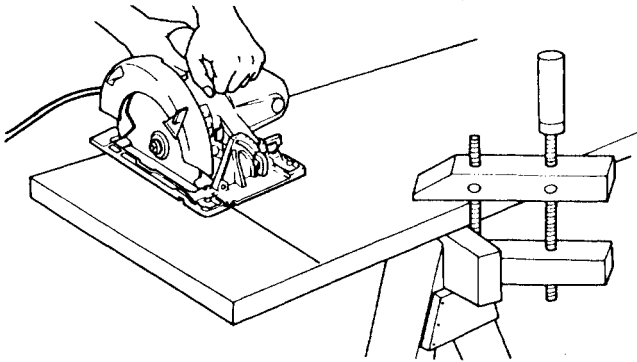

Fig. 2
- 39. WARNING:** It is important to support the work properly and to hold the saw firmly to prevent loss of control which could cause personal injury. **Fig. 2** illustrates typical hand support of the saw. When operating the saw, keep the cord away from the cutting area and position it so that it will not be caught on the work piece during the cutting operation.
- ① Recheck that the saw blade is securely clamped.
- ② Confirm that the clamp lever for adjusting the slot depth, the wing-bolt for adjusting the angle of inclination.
- ③ Grip the saw as shown in **Fig.2** and be sure the cord is free to move through the entire cut without jamming or getting in the path of the saw blade.